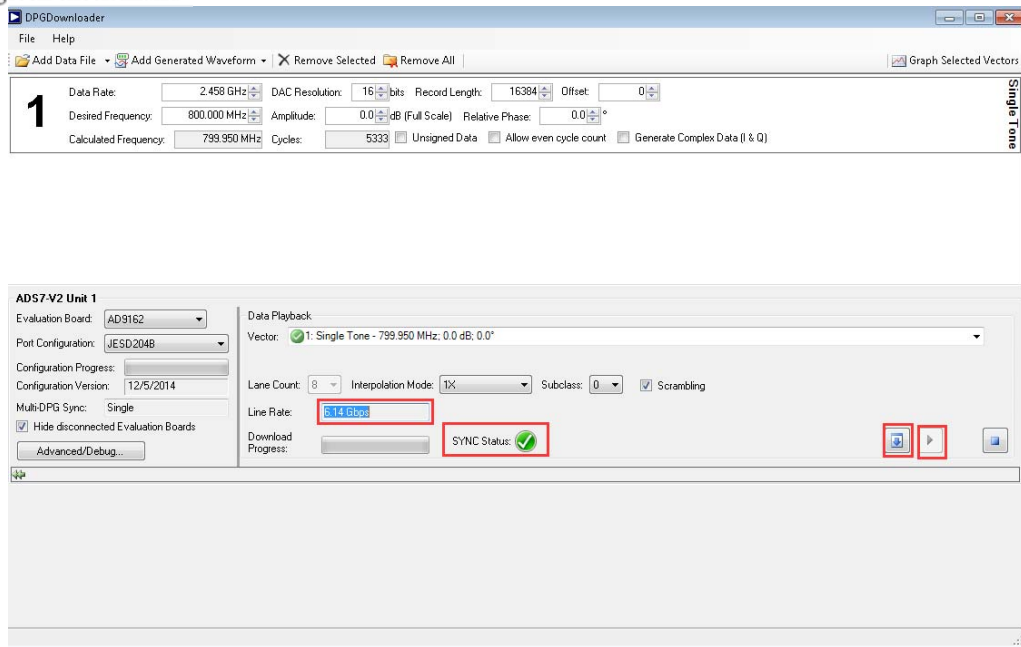

Figure 17. Download single tone and play it
6. The Lane Rate frequency from the AD9162 should be reported as 6.144 Gbps as shown in Figure 17. The "SYNC Status" should show as the green check mark.